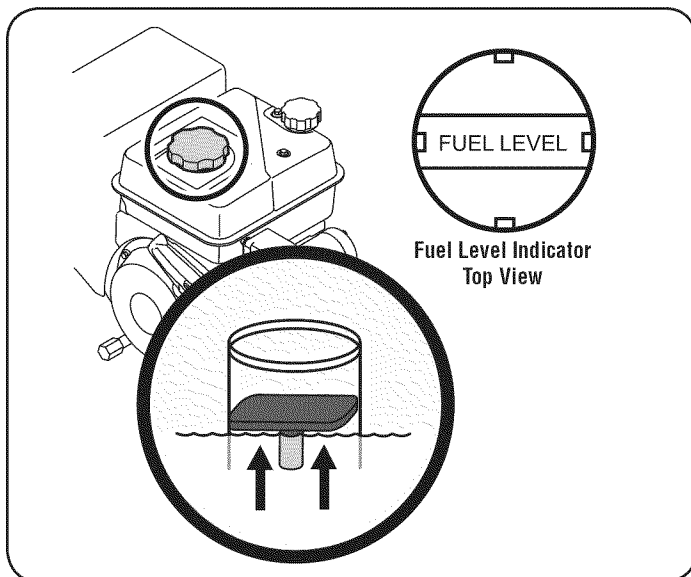

Figure 6
2. A fuel level indicator is located in the fuel tank. Fill tank until fuel reaches the fuel level indicator, Fig. 6. Be careful not to overfill.